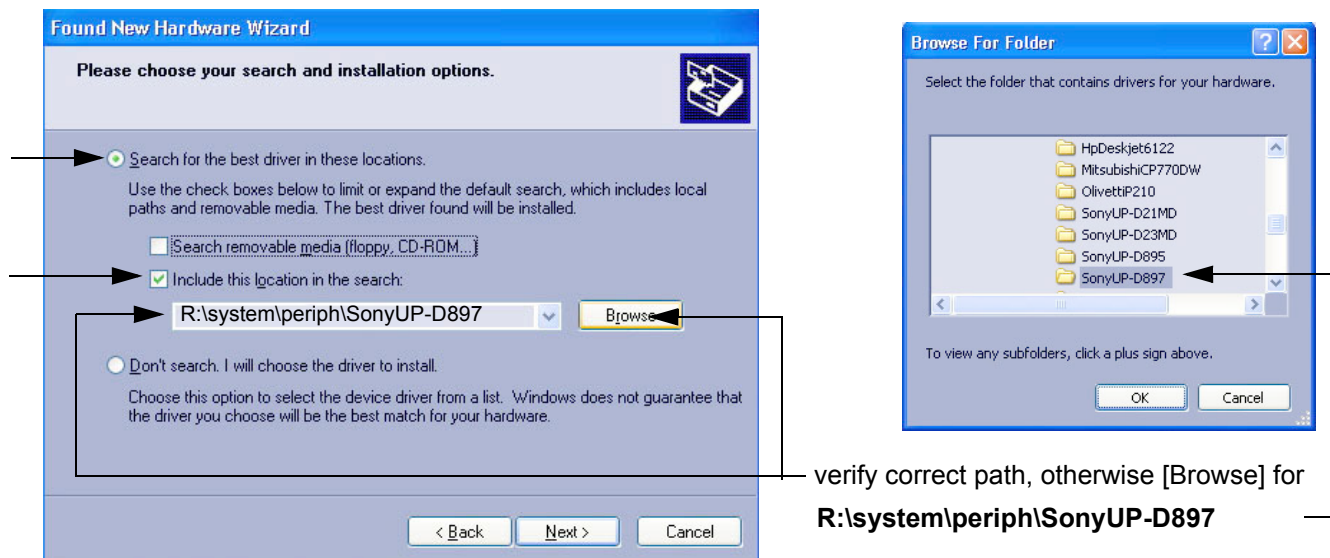

Figure 3-98 Search for Network path
- 4.) Select "Search for the best driver in these locations" and check mark "Include this location in the search" (see: Figure 3-98 on page 3-82).
**NOTE:** If path (R:\system\....) is different from what is shown in Figure 3-98, click on the BROWSE button to search correct driver.